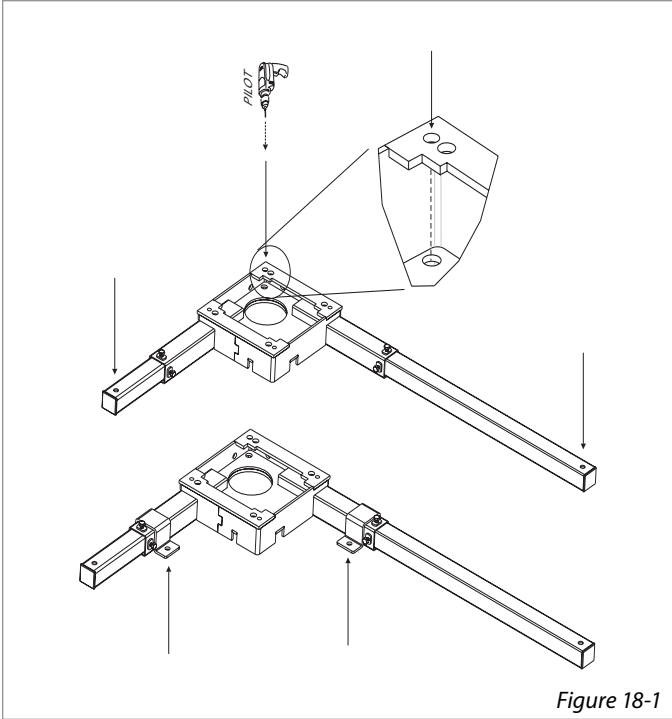

Figure 18-1
**4. Double-check hole positions for pilot holes.** Mark the three hole locations. Use the base as a template, then remove base. Drill pilot holes down through truck bed in the marked locations. [Figure 18-1]
**6. Drill two more 3/8" holes** for the base leg anchors through the truck bed; if the frame is not captured, if bed material is too thin, and/or application is very heavy. [Figure 18-1 and 18-3]